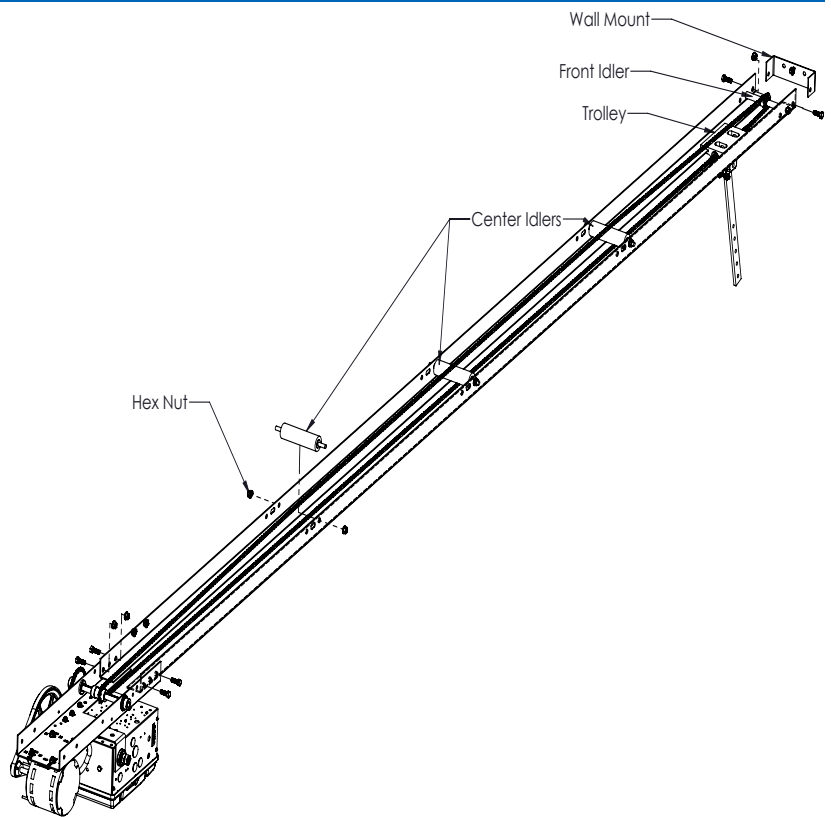

FIGURE 1
1. Using the center idlers and the front idler, assemble the operator rail by installing the idlers between the rails. Use the hex nuts on the outside and fasten them tight. The front idler should be installed in the second hole. The center idlers should be spaced evenly over the length of the track. (Figure 1)